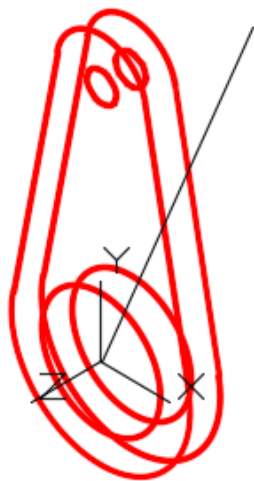

Figure Step 9
Step 9 On layer: Construction, draw a line from 0,0,0 at any angle and any length. The line you draw does not have to match the figure exactly. Draw it by eye. (Figure step 9)